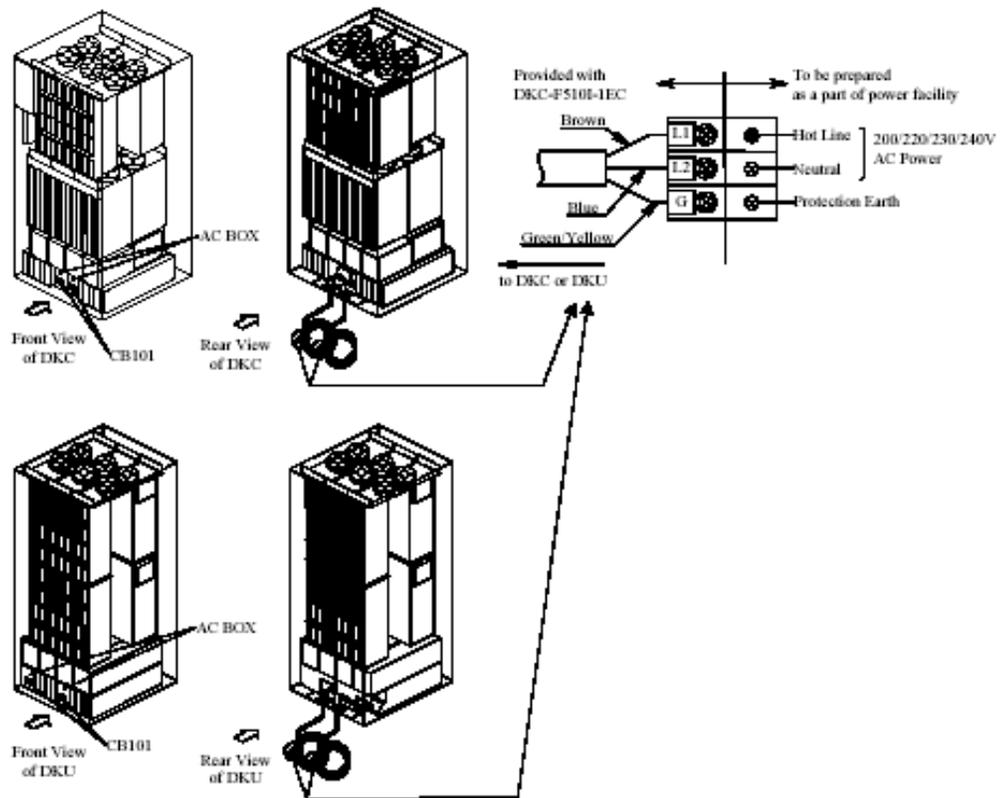

Figure 4.11 Single-Phase 50-Amp Model for Europe
Figure 4.11 illustrates the power plugs for a single-phase ST9990V controller (Europe). The DKC has two (2) main disconnect devices (two main breaker CB101s for dual power lines), so that AC power of the unit can be supplied from the separate power distribution board with two (2) power supply cords. Similarly, each of the DKU-R1, DKU-R2, DKU-L1, and DKU-L2 also has two (2) main disconnect devices (two main breaker CB101s for dual power lines).
Make sure to connect a power cord to the distribution box as illustrated in Figure 4.11. The wrong connection of neutral line may cause fire or damage to the equipment. To reduce the risk of wrong connection, you should use approved type attachment plug and socket for power cord connection.